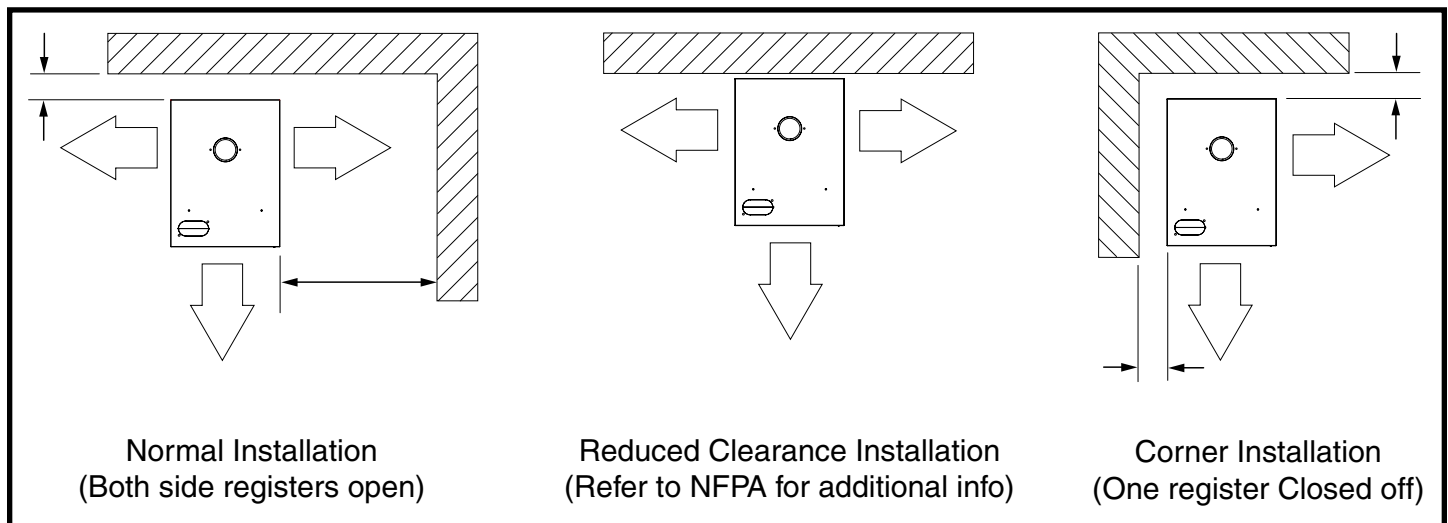
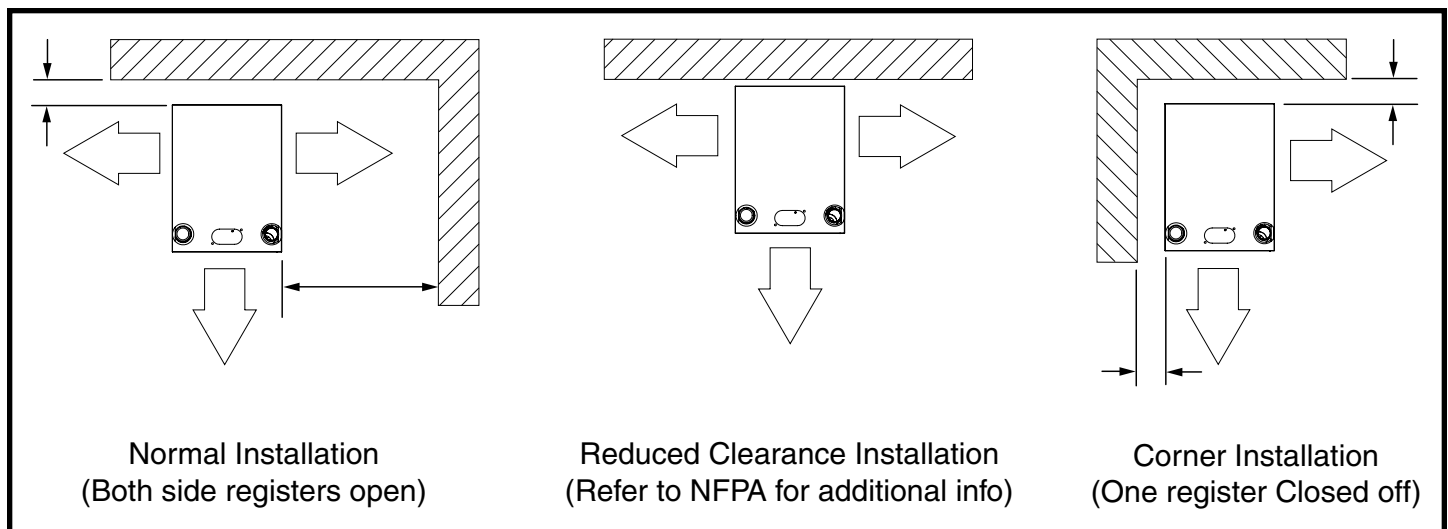

Figure 2. CMF / CMF2 Furnace Installations (Without Ductwork)
Figure 3. CMF95 Furnace Installations (Without Ductwork)
- The unit may be located in a corner or with the rear of the unit against an open wall, as shown in Figure 2 and Figure 3.